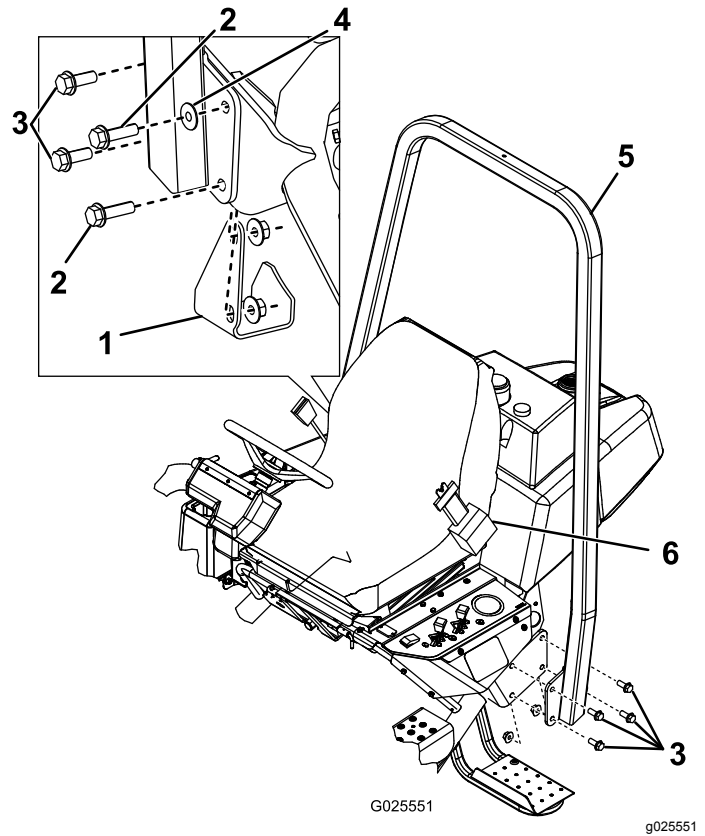

Figure 6
2. Lower the ROPS frame (Figure 6) onto the mounting brackets, aligning the mounting holes.
3. Secure the left side of the roll bar to the mounting bracket with 4 bolts (1/2 x 1.5 inch) and locknuts (Figure 6). Torque the fasteners to 91 to 115 N-m (67 to 85 ft-lb).
4. Secure the right side of the roll bar and the previously removed jack pad to the mounting bracket with 2 bolts (1/2 x 1.5 inch), 2 bolts (1/2 x 1.75 inch), 1 washer, and locknuts as illustrated in Figure 6. Torque the fasteners to 91 to 115 N-m (67 to 85 ft-lb).
Important: Ensure that you install the washer in the correct location as illustrated in Figure 6.